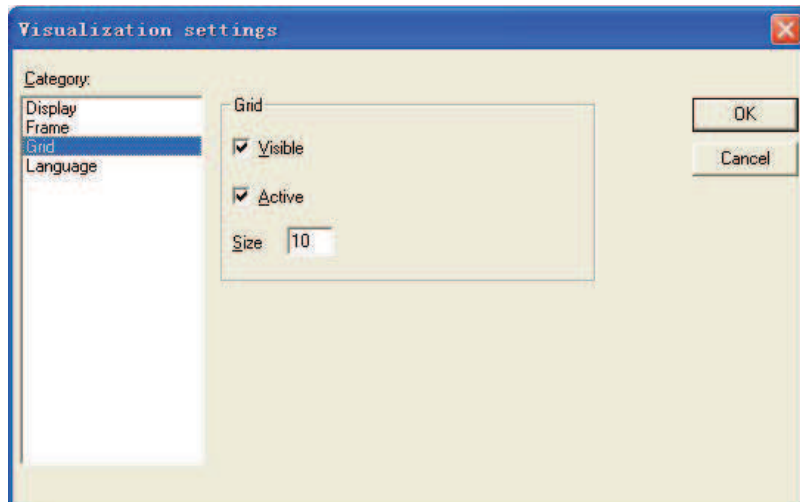

Figure 11-3-6 Grid Setting
- Grid: Grid setting is shown in figure 11-3-6.